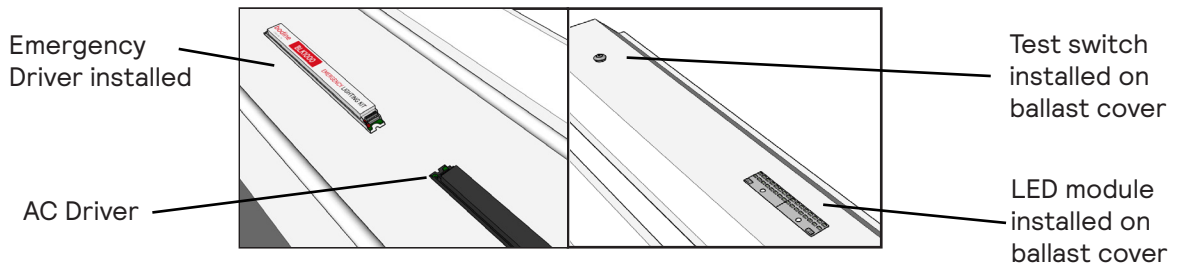

Figure 3. Installation location (driver to left and module to right)
- E. Install the emergency driver utilizing 2 of the 4 screws provided into the driver channel per **Figure 3**. Install the LED module utilizing 2 of the 4 screws provided into the ballast cover on the visible side of the ballast cover per **Figure 3**. Ensure secure installation of both emergency driver and LED module.